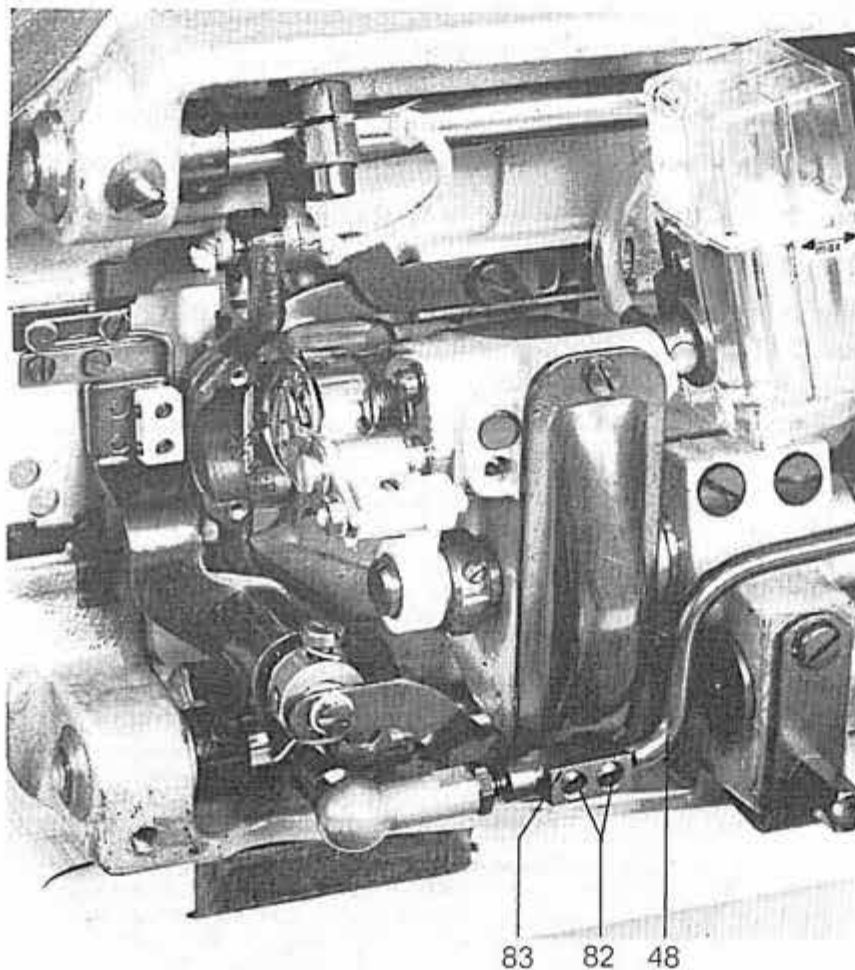

Fig. 63
8. Introduce the knife block in the machine and press the ball cup of the traction rod 48 (fig. 63) on the spherical bolt of the knife carrier.
For rectifying, loosen the screws 82 (fig. 63) and set the block 83 on the traction rod 48 accordingly.